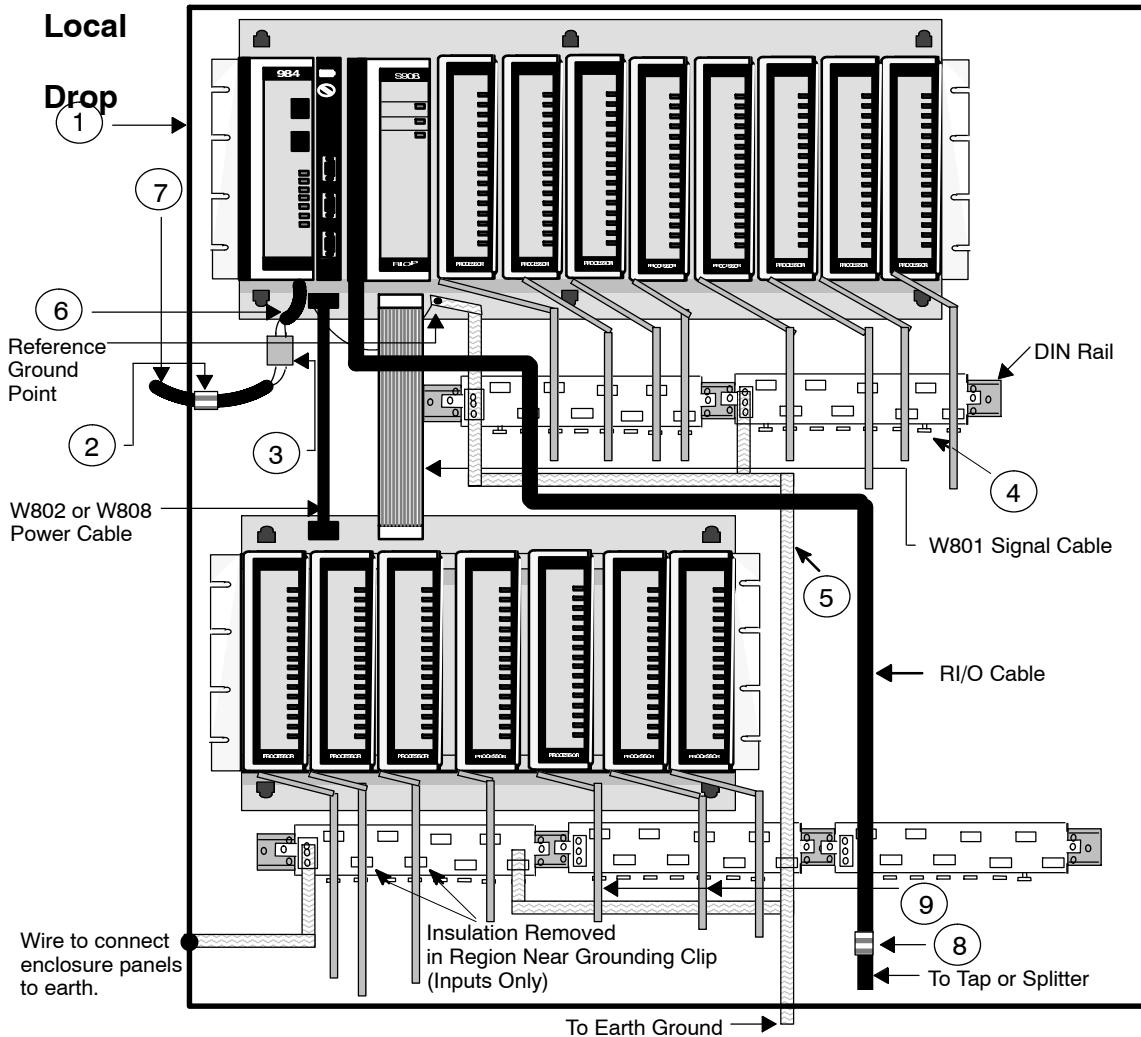

Figure 4 Typical CE Installation for a Local Drop
- ☐ Install braided earth ground as shown in Figure 4 from building earth ground to grounding clip (or clips as required) and to back-plane ground reference.
Parts List for Figures 4 through 6